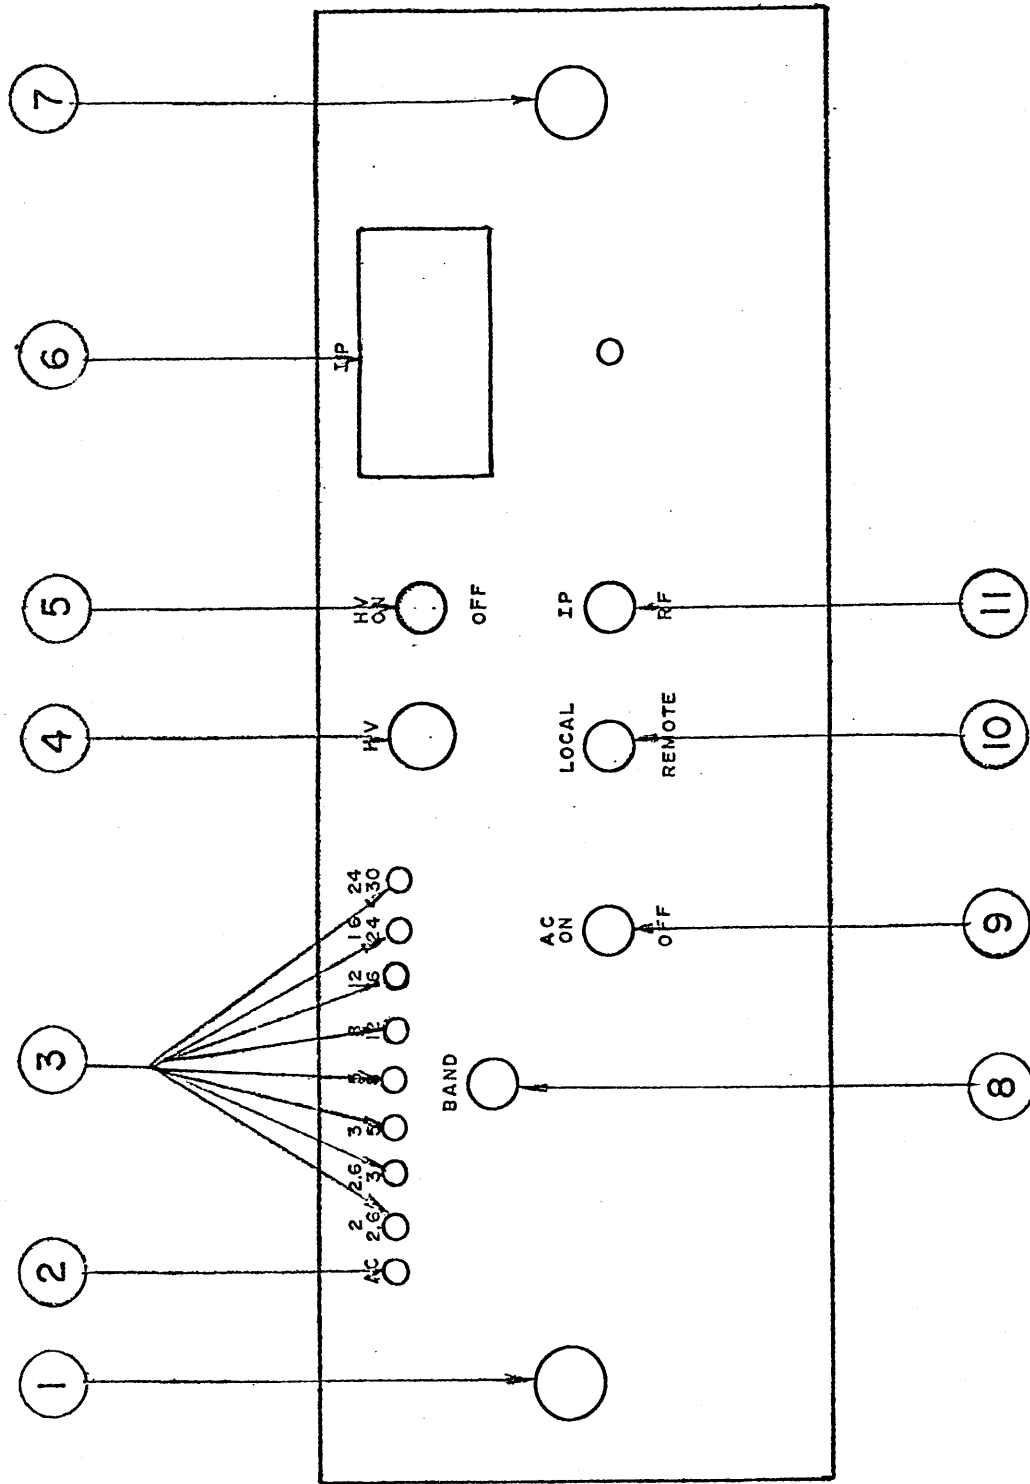

Figure 3-1. Controls and Indicators
All of the controls and indicators are located on the front panel illustrated in figure 3-1. They are functionally identified in Table 3-1.
TABLE 3-1. FRONT PANEL INDICATORS AND CONTROLS (Refer to figure 3-1)
TABLE 3-1. FRONT PANEL INDICATORS AND CONTROLS (Refer to figure 3-1) (cont)
3-3. PRELIMINARY PROCEDURES (Refer to figure 3-1)
b. LOCAL TUNING. (Refer to figure 3-1)
(1) Connect the plug on ac power lead to a suitable power source.
#### c. REMOTE OPERATION. (Refer to figure 3-1)